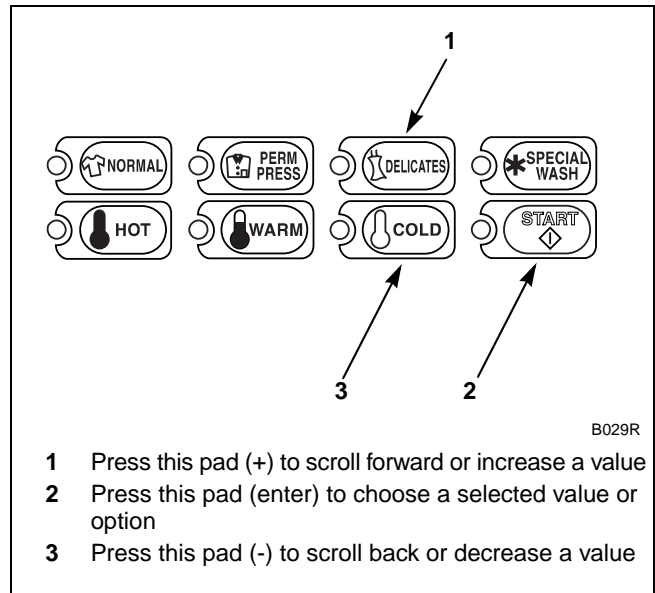

Figure 107
5. Press the DELICATES (+) or the COLD (-) keypad to increase or decrease the current water level value to the desired water level value selected from *Table 7* on the following page. Refer to *Figure 107*.